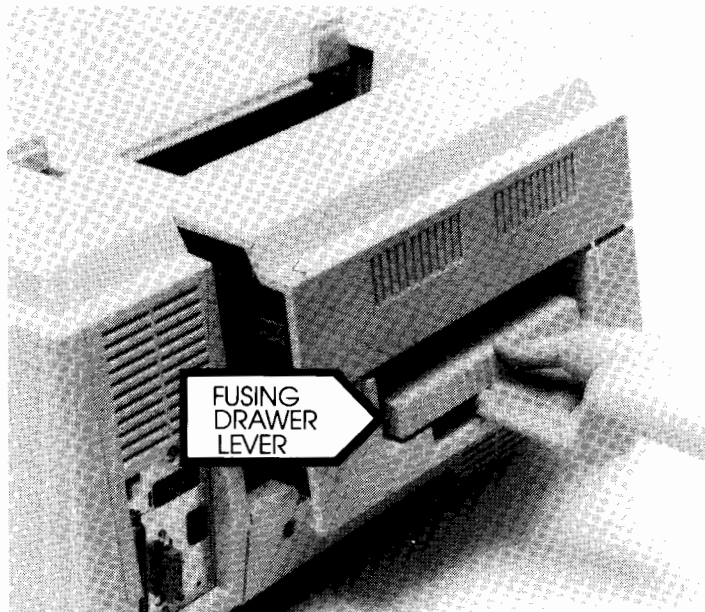

Figure 4-9. Pulling Out Paper Exit Unit
- a. Pull out the paper exit unit horizontally while lifting up the fuser drawer lever (figure 4-9).